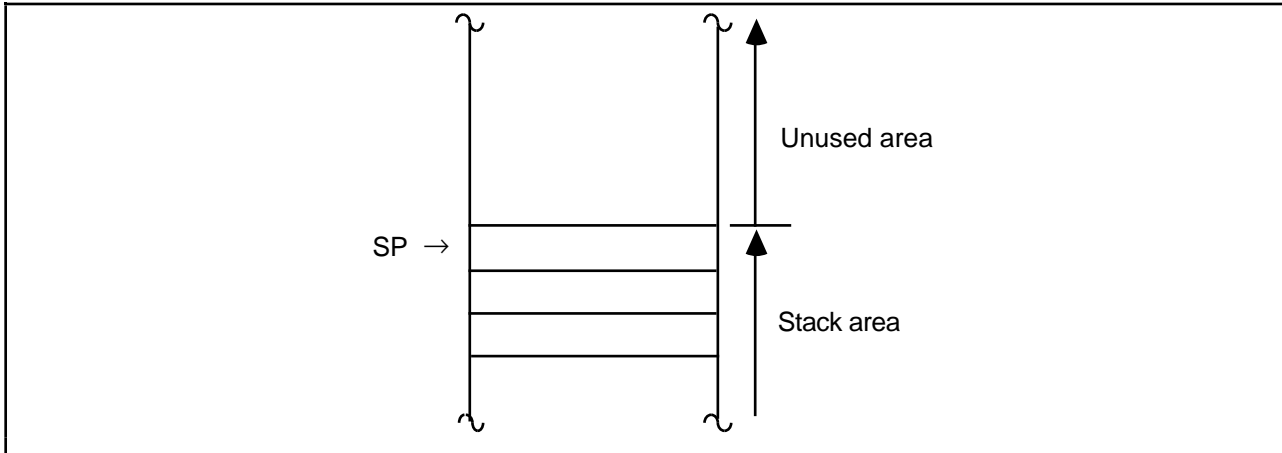

Figure 1-2 Stack Pointer (SP)
Figure 1-2 shows the register structure of the CPU. There are two groups of registers: the general registers (Rn) and the control registers (CR).